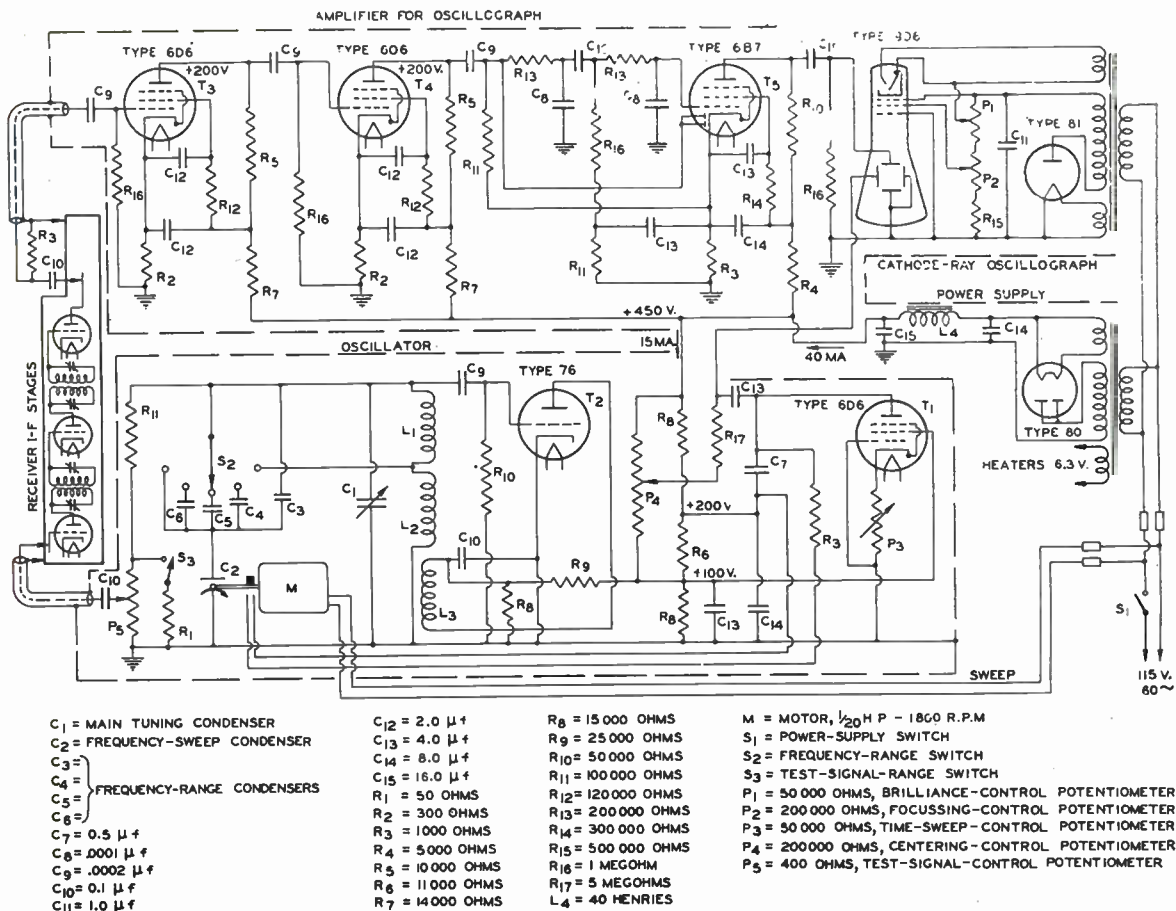

Fig. 1. Circuit of the cathode-ray oscillograph apparatus designed for the alignment of tuned circuits.
Fig. 1 is a diagram showing the multiplier and its circuit when used to multiply
Fig. 1. Diagram showing the multiplier and its circuit when used to multiply electrons in a beam entering the multiplier chamber along a line indicated by the arrow A.
Explanation of these properties is simple in general, although the detailed analysis presents certain obscurities which render its presentation here undesirable. An electron, either a photoelectron or an electron from the streamer A in Fig. 1, liberated at one of the cathodes, is accelerated toward the other cathode by the anode voltage, and is prevented from striking the anode by the magnetic field which converts the transverse component of the electron's motion into an arcuate one. Its time of flight is determined by the distance between the plates and the velocity imparted to it by the anode potential plus the integrated effect of the potential between the cathodes. The latter factor determines whether (1) it will strike the other cathode with sufficient velocity to cause emission of secondary electrons, (2) strike with a lesser velocity, or (3) fail
A resonance curve tracer employing the type 906 cathode-ray tube has been set up and operated in the laboratory of the RCA Radiotron Co. This device is designed to cover a range of intermediate frequencies of 100 kc to 500 kc and has an amplifier-detector section which is practically flat over the entire range. Since it is believed that a "Visual" of this type will be of distinct value to many laboratories as well as to manufacturers and service men who desire to improve their testing facilities, a detailed description of the instrument is given in this article. Fig. 1 is the schematic circuit diagram while Fig. 2 shows the functional layout and a suggested arrangement for a portable resonance curve tracer. It should be borne in mind that the principles and methods involved in this application can be applied to obtain the curves of any form of tuned circuit and that the frequency range is not limited to the 100-500 kc of the apparatus illustrated.
given frequency band. To obtain this curve, it is necessary to have a voltage source, which in this instance is the oscillator  $T_2$  of Fig. 1, and to have a source of variable frequency covering a range which extends above and below the resonant frequency. The frequency variation to sweep across the frequency range of the tuned circuit can be accomplished manually by hand manipulation of a condenser or it can be speeded up to thirty times a second as is done in this case by means of an 1800-rpm motor. The fluctuating output voltage of the stage is then amplified, rectified, and again amplified, and finally applied to one set of the deflecting plates of a cathode-ray tube. The other set of deflecting plates is supplied with the sweep-frequency voltage.